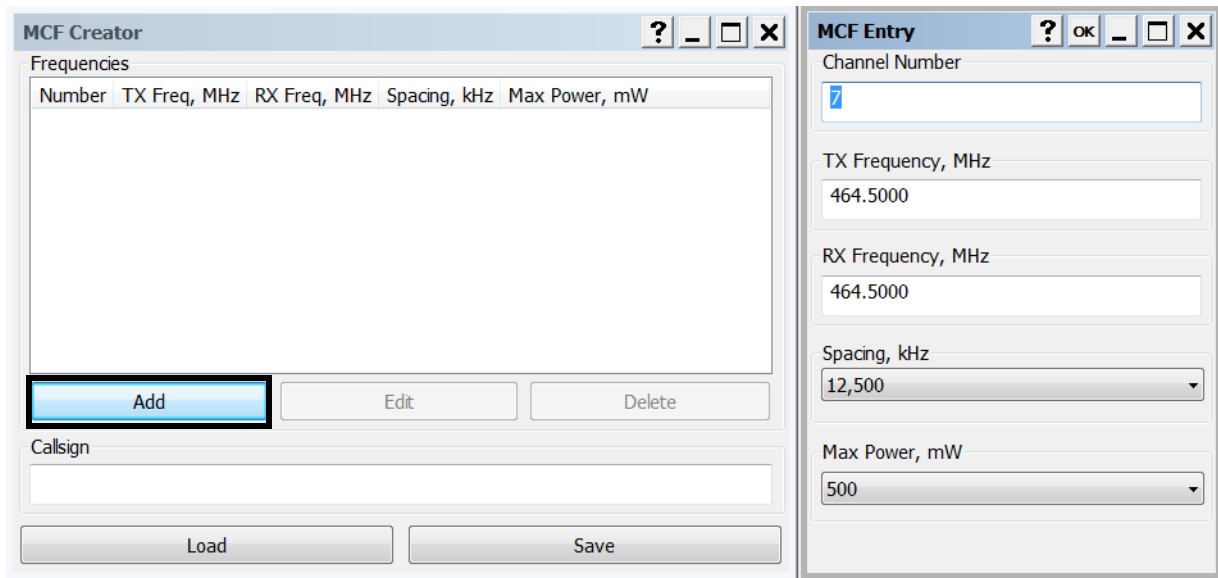

Figure 9: Frequency Editing
5. In the **MCF Entry** screen (Figure 9), you can enter the channel number, TX/RX frequencies, spacing, and Max Transmit Power for the radio modem.